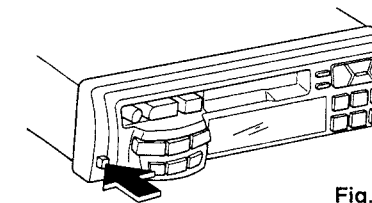

Fig. 2
1. Press the PWR button ① to turn the power off.
2. Press the Release button. (Fig. 2)